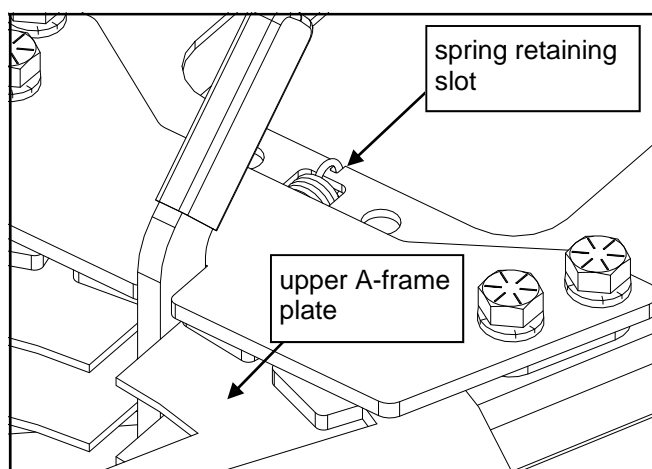

Fig. 3.5 (Angle Latch Handle - Spring)
3.5 With a pair of pliers, stretch the handle spring away from moldboard and engage the spring hook into the retaining slot of the upper A-frame plate. See Fig 3.5.